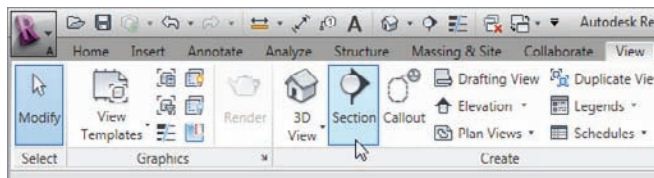

FIGURE 3.32 The Section command is found on the Create panel of the View tab.
2. On the Create panel of the View tab, select Section, as shown in Figure 3.32.